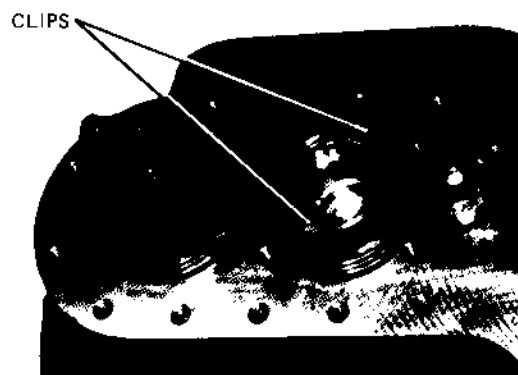

FIG. 9 — INSTALLING SUCTION VALVE
2. To hold the suction valve and springs firmly in place during installation, make up two sheet metal clips to be placed over the discharge valve plate and suction valve as shown in Fig. 9. These clips may be ordered from the Factory — York Part No. 065-01670.